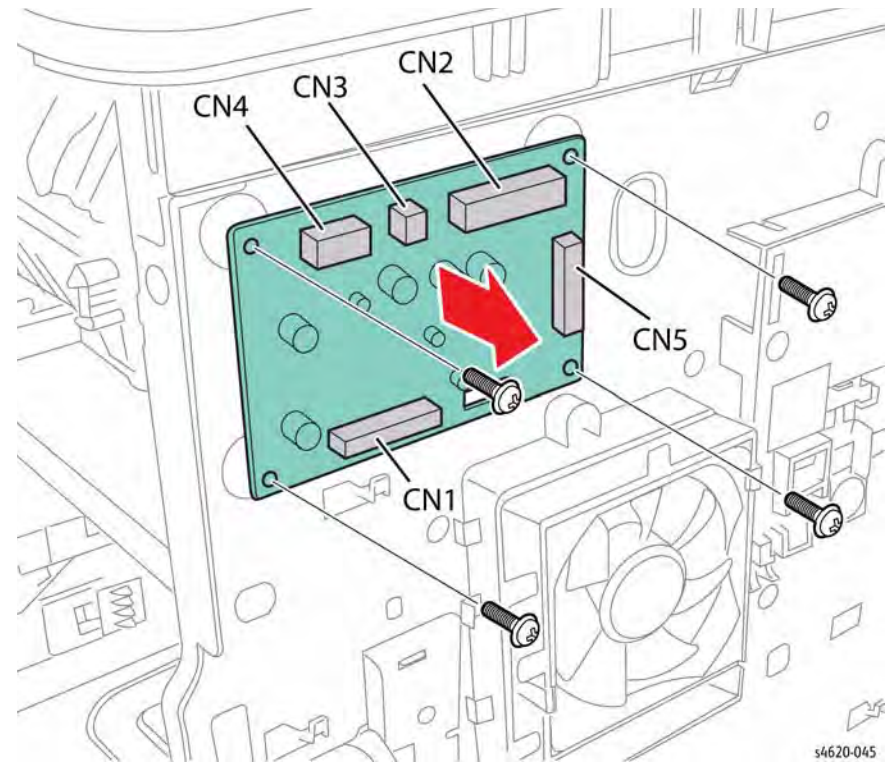

Figure 1 Remove the Interconnect Board screws
5. Remove 4 screws (metal) that secure the Joint Board to the chassis, Figure 1.